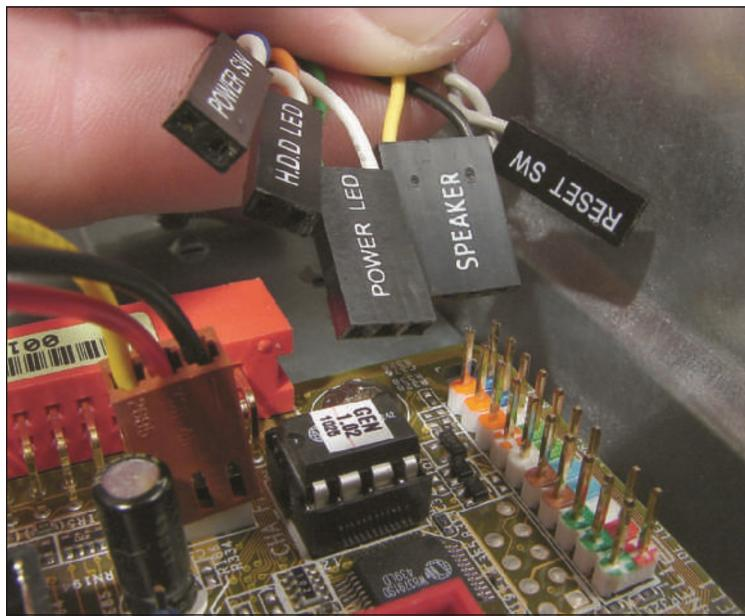

Figure 2-12 Five leads from the front panel connect to two rows of pins on the motherboard front panel header
3. The next step is to disconnect wires leading from the front or top of the computer case to the motherboard, which are called the **front panel connectors**. If you don't have the motherboard manual handy, be very careful to diagram how these wires connect because they are rarely labeled well on a motherboard. Make a careful diagram and then disconnect the wires. Figure 2-12 shows five leads and the pins on the motherboard front panel header that receive these leads. The pins are color-coded and cryptically labeled on the board.